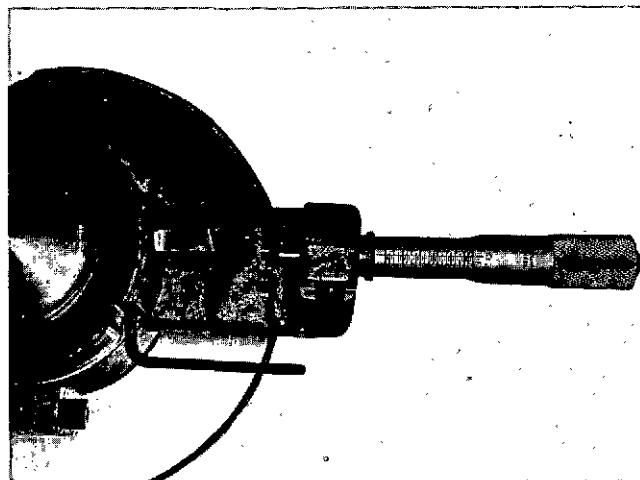

Fig. 1-1-18, V40188. Adjusting tool bit in cutter holder
7. Align tool bit hole in cutter holder with hole through micrometer shaft and tighten cutter holder socket head screws. Fig. 1-1-18. Keep even gaps between two halves of cutter holder.
Table 1-1-11: Cylinder Block Height From Main Bearing Centerline (A, Fig. 1-1-18) Inch [mm]
Table 1-1-12: Cylinder Block Height From Alignment Bar (B, Fig. 1-1-18) Inch [mm]